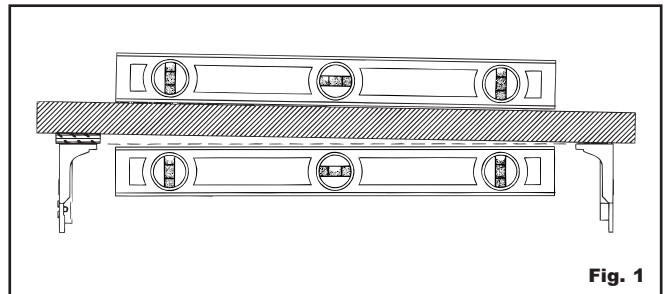

Fig. 1
1. To ensure that shades operate properly, brackets must be level. Check to see if the surface on which the shades will be mounted is level; if not, shim the brackets to make them as level as possible. **(See Fig. 1)** This step is crucial to the final performance. (On non-level surfaces the shade fabric will tend to telescope on the tube. If you are experiencing this, shim the tube with a little tape on the side that appears to be lower.)
1. To ensure that the shades operate properly, brackets must be level. Check to see if the surface on which the shades will be mounted is level; if not, shim the brackets to make them as level as possible. **(See Fig. 1)** This step is crucial to the final product. (On non-level surfaces, the shade fabric will tend to telescope on the tube. If you are experiencing this, shim the tube with a little tape on the side that appears to be lower.)
- To ensure that the shades operate properly, brackets must be level. Check to see if the surface to which the shades will be mounted is level; if not, shim the brackets to make them as level as possible. **(See Fig. 1)** This step is crucial to the final product. (On non-level surfaces, the shade fabric will tend to telescope on the tube. If you are experiencing this, shim the tube with a little tape on the side that appears to be lower.)
- To ensure that the shades operate properly, brackets must be level. Check to see if the surface on which the shades will be mounted is level; if not, shim the brackets to make them as level as possible. **(See Fig. 1)** This step is crucial to the final product. (On non-level surfaces, the shade fabric will tend to telescope on the tube. If you are experiencing this, shim the tube with a little tape on the side that appears to be lower.)